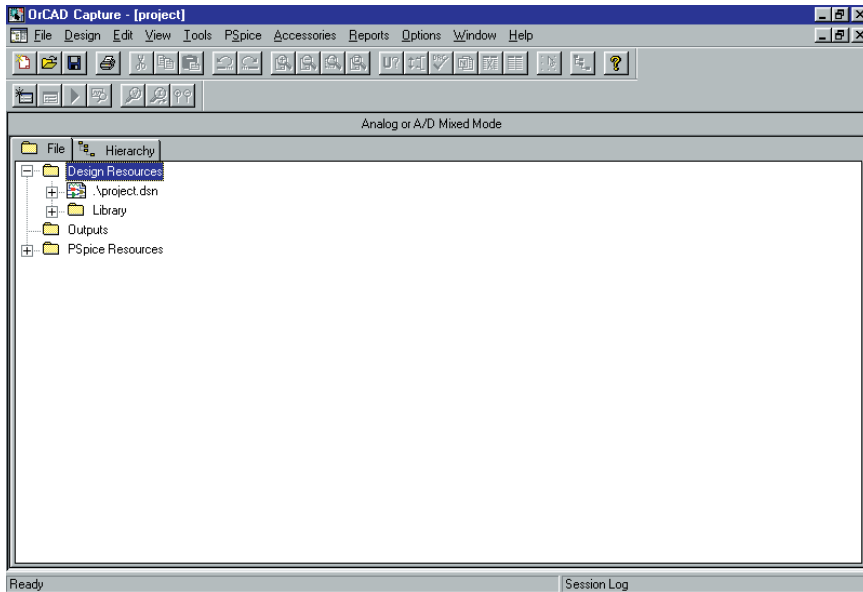

FIGURE A-5 Project Manager
1. The Capture window will display the *Project manager* as shown in Figure A-5. Once in the project manager, click on the **New Simulation Profile** tool. Enter a name for the profile (e.g., **RC Timer**) in the Name field.